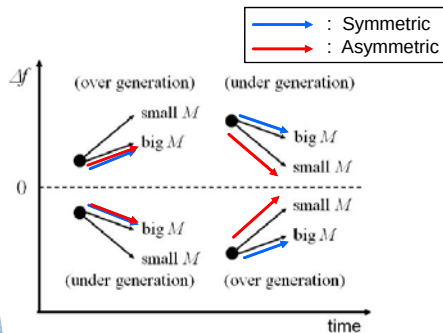

Figure.4 Concept of asymmetric synthetic inertia control
- ✓ Specifically, as shown in Figure 4, the synthetic inertia control **should work when the sign of frequency deviation is positive (negative) and the system frequency is increasing (decreasing).**
- Figure 4 to 6 show the fluctuation data of load, wind, and photovoltaic output.